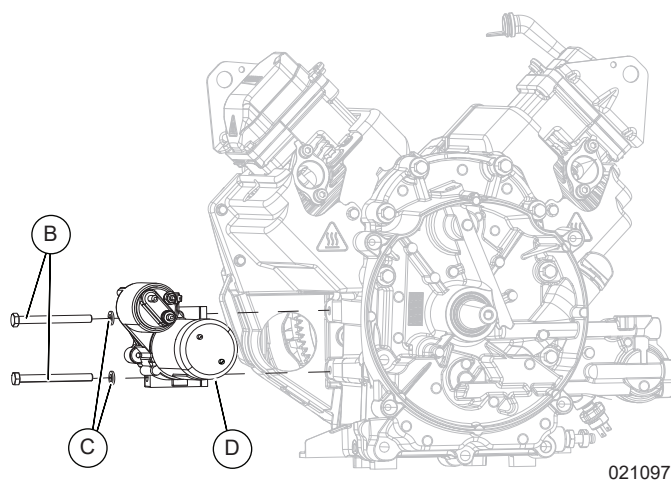

Figure 6-4. Remove Starter
2. See Figure 6-4. Remove two fasteners (B), two lock washers (C), and starter motor (D) from the crankcase.